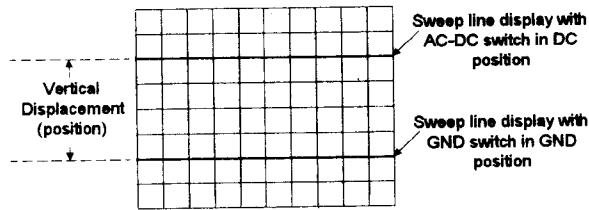
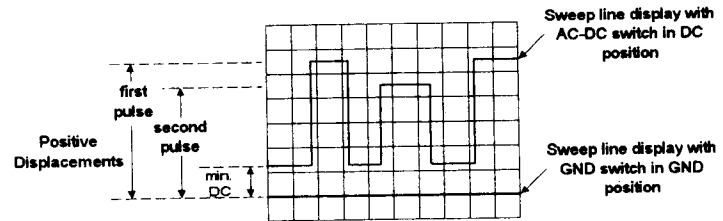

Fig. 4. DC voltage measurement
Fig. 5. DC level of waveform measurement
5. Press the AC-DC Switch to the DC position and note the sweep line displacement for a DC signal (see Fig. 4) or total signal height to the level where measurement is desired.(see Fig. 5) A vertical displacement of at least 3 divisions is suggested for optimum accuracy of measurement. The reference level may be re-checked by returning the GND switch to the GND position.
6. Calculate the displayed voltage by multiplying the number of divisions of vertical displacement times the setting of the VOLTS/DIV selector times the probe attenuation factor. For example for Fig. 4 if the VOLTS/DIV selector were set to 0.5V/div and the  $\times 10$  probe used, the displayed voltage would be  $5 \text{ DIV} \times 0.5\text{V/div} \times 10$  (probe factor) = 25 volts